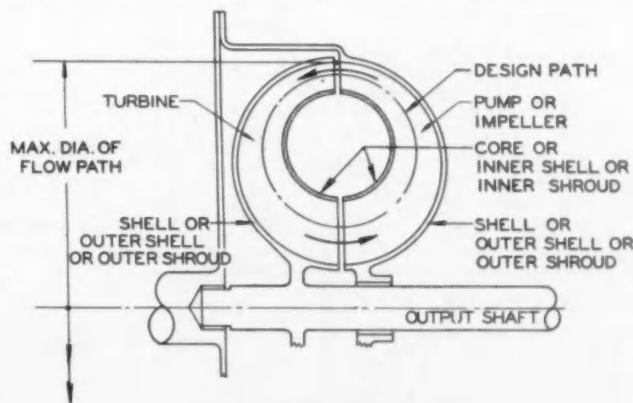

Fig. 1—Fluid coupling
**FLUID COUPLING** is a hydrodynamic drive which transmits power without ability to change torque. (Torque ratio is unity for all speed ratios.) See Fig. 1.
**SHELL, OUTER SHELL, or OUTER SHROUD** designates the outside wall of the toric fluid path in any member. See Figs. 1 and 2.
**CORE, INNER SHELL, or INNER SHROUD** designates the inside wall of the toric fluid path in any member. See Figs. 1 and 2.
**TORQUE CONVERTER SIZE** in general terms is designated by the maximum diameter in inches of the flow path. See Fig. 1.